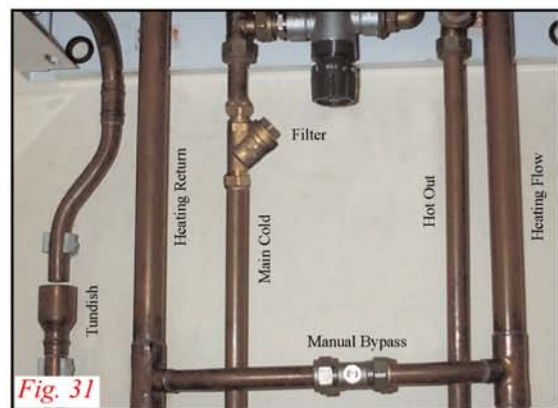
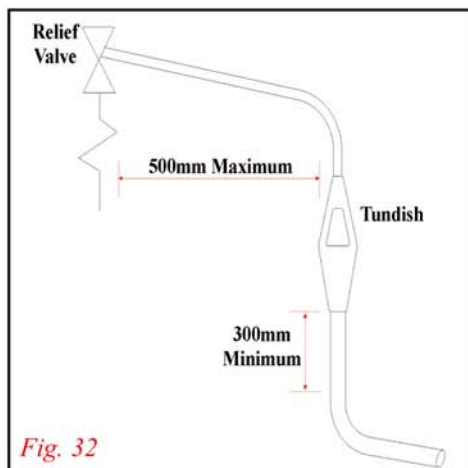

Fig. 31
Fig. 32
5. CONNECT PIPEWORK (Fig. 31)
Note. A Tundish must be installed in accordance with Building Regulations: G3, (Fig. 31 and Fig. 32).